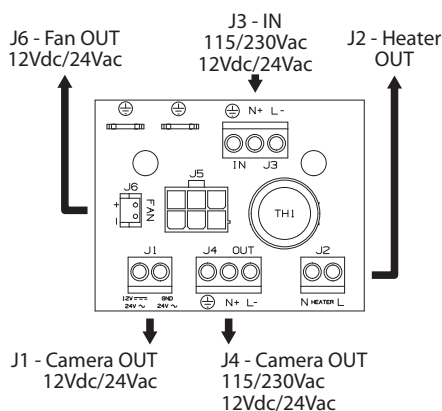

Fig. 06
Insert the 6 pin connector of the power supply cable in the corresponding connector on the support, circuit shown as J5 (Fig. 06, page 6).
Connect the FAN (J6) terminal of the support circuit (Fig. 06, page 6) on the housing slide to the V IN (J1) terminal on the fan circuit using the special cable supplied with the kit.
Insert the 6 pin connector of the power supply cable in the corresponding connector on the support circuit, shown as J5 (Fig. 06, page 6).
**At the terminal board indicated as J4 on the support circuit (Fig. 06, page 6) it is possible to take off the main power supply voltage originating from an external source. If the circuit is powered by an external source take great care to check the type of voltage used and utilise the correct power supply kit, according to requirements.**
Make the electric connections for the cooling device to the terminal marked J3 (Fig. 06, page 6). In this circuit the camera can be powered from the terminal marked J4. The power for the optional heating system can be taken from the terminal marked J3.